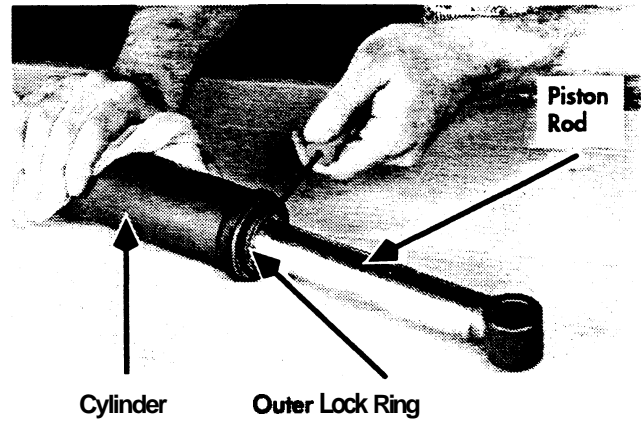

Figure 6-99: Removing Outer Spiral lock Ring
2. Extend the piston fully from the cylinder. See Figure 6-99.
3. Remove the outer lock ring. See Figure 6-99.